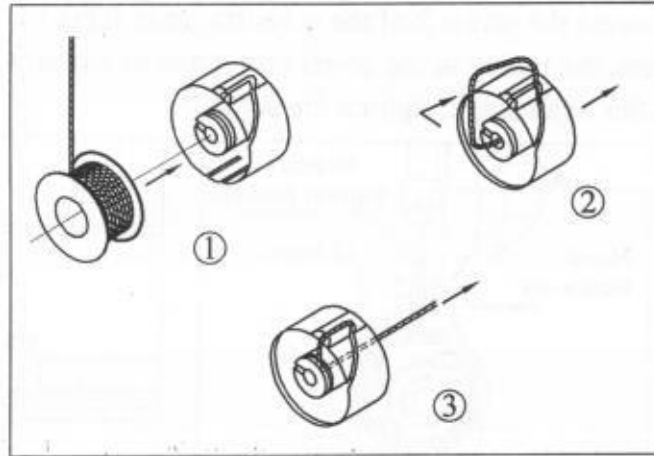

Fig 5
- Thread the bobbin thread by the path indicated in Fig 5.